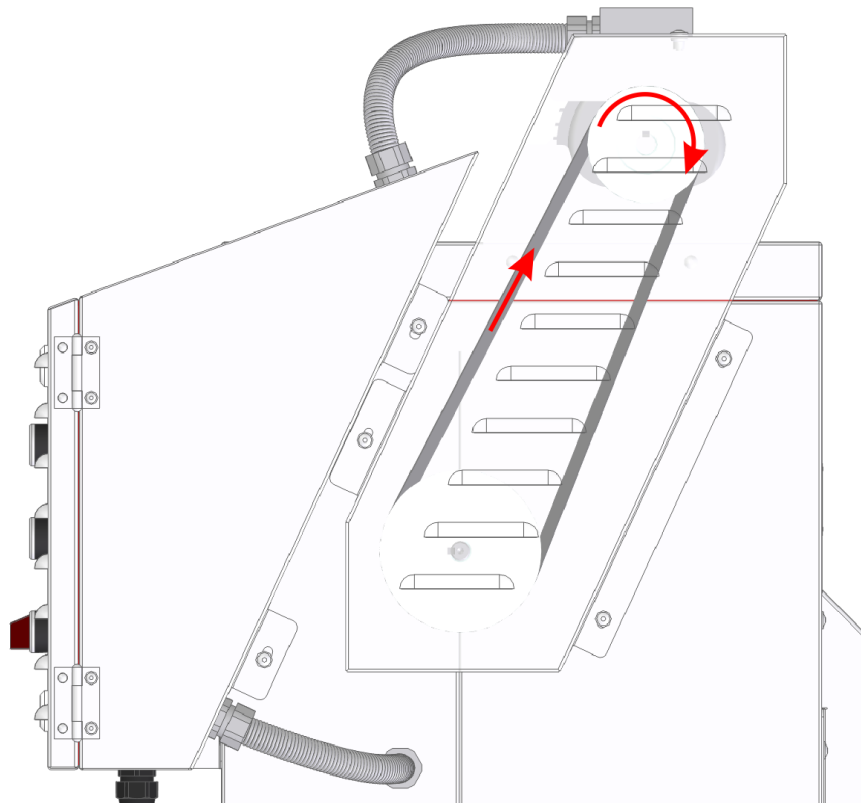

Fig. 3. Motor shaft rotation direction
2. The motor will be launched. Check the rotation direction of the motor shaft. The shaft shall rotate clockwise (see fig. 3). If the shaft rotates counter clockwise, it is necessary to exchange two phases in mains plug. To do this, you have to switch off the machine by pressing STOP button.